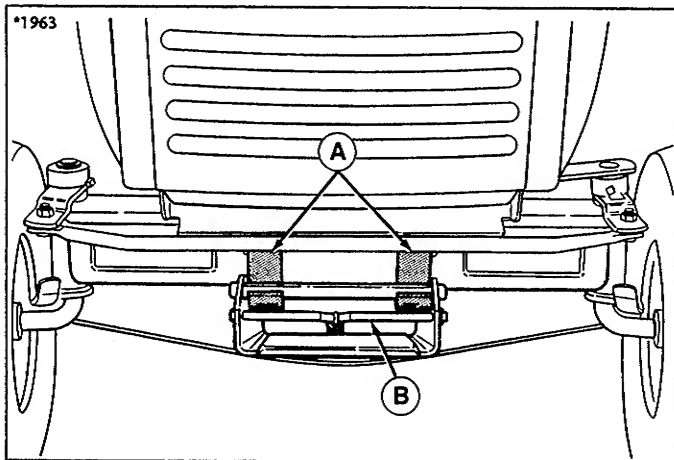

Figure 20.
4. Remove mower from tractor hitch brackets (A, figure 20) by pulling spring-loaded lever (B) forward and lifting up on hitch. Place mower hitch on ground.